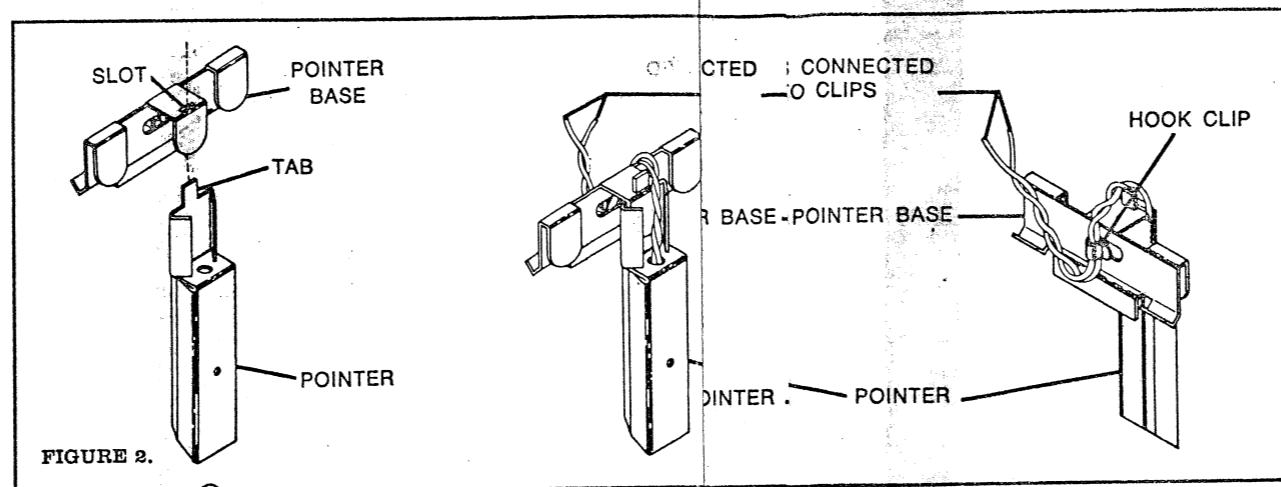

FIGURE 2.
pointer light are connected to two clips on the top chassis, behind the front panel. Remove the wires from the small hook clip on the rear of the pointer base. (See Figure 2.)
- (3) Remove the dial pointer (bulb plus metal guard), by sliding it directly downward, as shown in Figure 2.
- (4) Slide the new dial pointer (Part No. AS 50451-2) upward, while pressing downward on the pointer base, until the pointer reaches its lower limit. The tab on the pointer should mate with the slot on the pointer base.
- (5) Twist the two wires together and slip them through the hook clip on the rear of the pointer base. Be sure to avoid leaving any slack in the wire above the pointer. (See Figure 2.)
- (6) Secure the ends of the two wires to the clips by pressing the tip of the wires over the clips.
- (7) Replace the dial glass, front panel, and cabinet top.